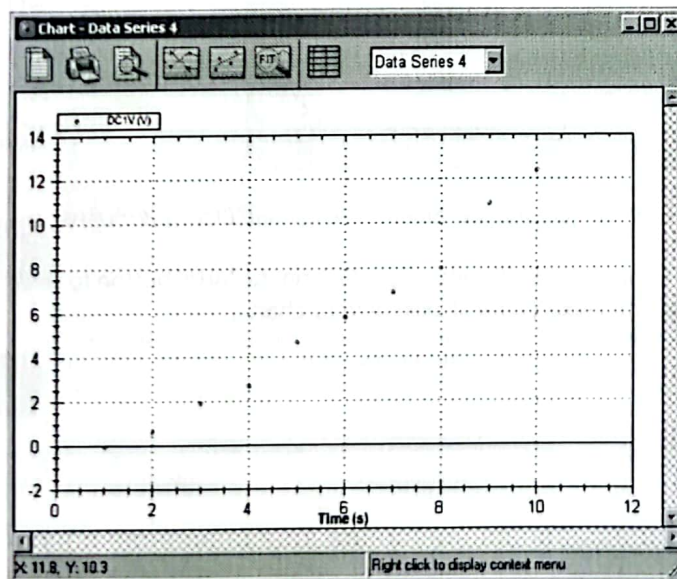

Figure 39 Example of a Chart Window
5. When you have done, click on the 'Apply' button, then the 'OK' button. Your chart window will appear, similar to Figure 39.